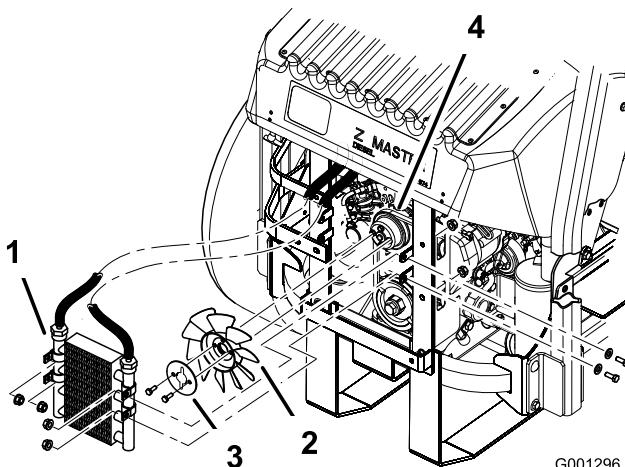

Figure 71
5. Remove the 4 bolts holding the oil cooler and position the oil cooler to the side (Figure 71).
6. Remove the 2 bolts holding the fan and fan plate to the machine (Figure 71).
10. Install the fan and fan plate to the machine with the 2 bolts previously removed (Figure 71).
11. Install the oil cooler with the 4 bolts previously removed (Figure 71).